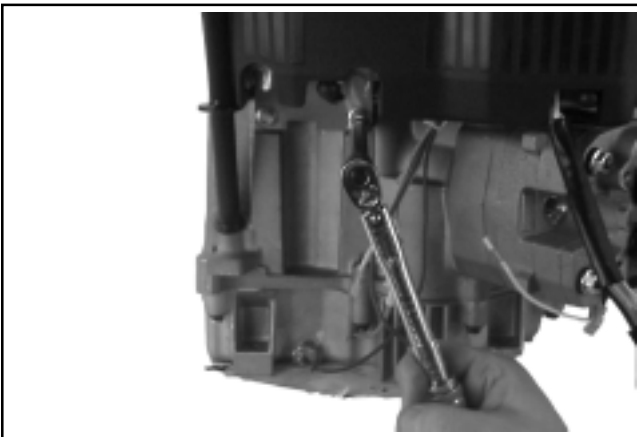

Figure 11-79. Torquing Adapter Plate Screws.
1. Position the starter mounting plate onto the crankcase so that the cutout is at the bottom, and the offset is toward the dipstick tube. Install and torque the two hex. flange mounting screws to **15.3 N·m (135 in. lb.)**. See Figure 11-79.